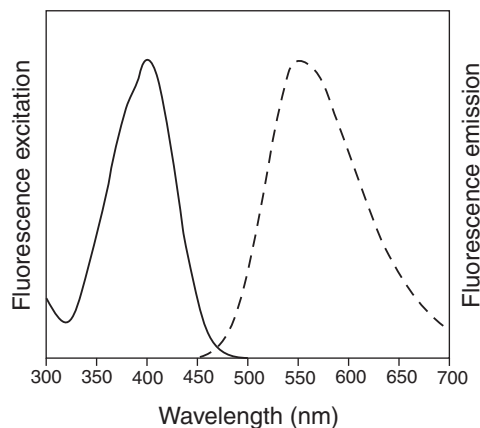

Figure 1. Normalized excitation and emission spectra of Pacific Orange™ dye conjugated to goat anti-mouse IgG in pH 7.2 buffer.
Spectral Data: Pacific Orange™ dye ~400/551 nm. See Figure 1.
Each of the Zenon® Pacific Orange™ Mouse IgG Labeling Kits is designed for use with a particular mouse monoclonal antibody isotype: IgG₁ or IgG_{2a}. Zenon® labeling technology utilizes a fluorophore-, biotin- or enzyme-labeled Fab fragment directed against the Fc portion of an intact IgG primary antibody in order to form a labeling complex (Figure 1). The labeled Fab fragments have been affinity purified during their preparation to ensure their high affinity and selectivity for the Fc portion of the primary antibody. Because this labeling is based on immunoselectivity, the Zenon® labeling method does not require the removal of exogenous proteins such as serum albumin or amine-containing buffers from the antibody prior to forming the complex. Crossreactivity is low with antibodies from other species.
Figure 1. The Zenon® labeling scheme. An unlabeled IgG is incubated with the Zenon® labeling reagent, which contains a fluorophore-labeled Fab fragment (A). The labeled Fab fragment binds to the Fc portion of the IgG antibody (B), and excess Fab fragment is neutralized by the addition of a nonspecific IgG (C). The addition of nonspecific IgG prevents cross-labeling of the Fab fragment in experiments where multiple primary antibodies of the same type are present. Note that the Fab fragment used for labeling need not be coupled to a fluorophore, but could instead be coupled to an enzyme or to biotin.